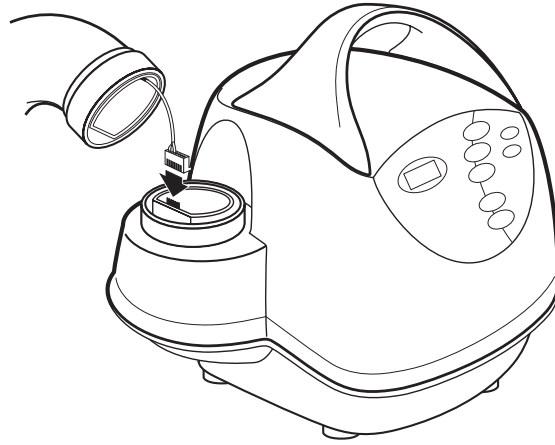

Figure 3. Hose replacement
4. By hand or using a needle-nose pliers, carefully detach the cable connector from the header plug located inside the hose connector. See Figure 3.